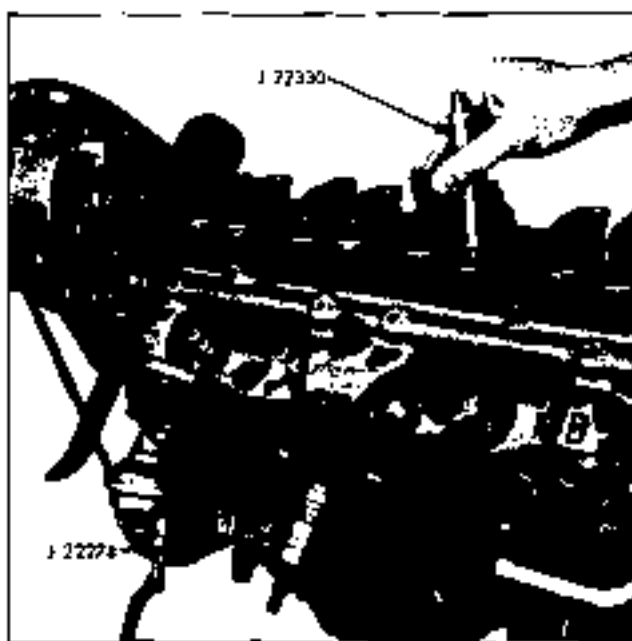
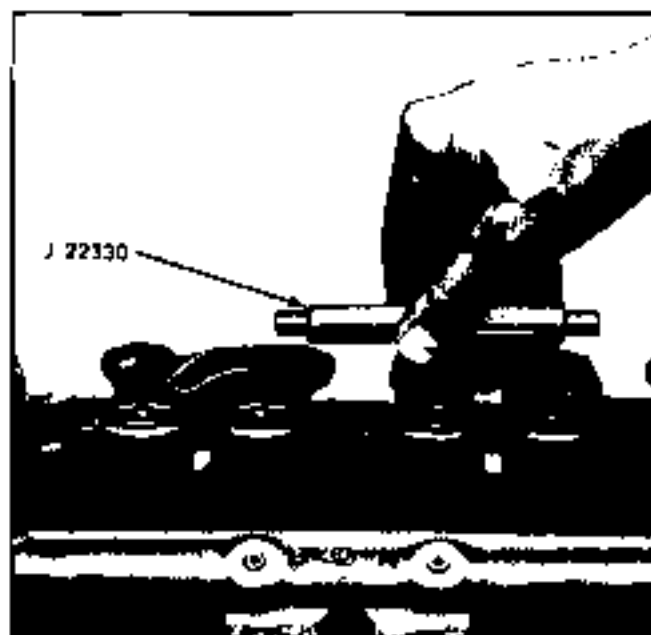

Fig. 6-80 Installing Valve Stem Seal
Fig. 6-81 Checking Valve Stem Seal
1. Install new part or parts, compress springs with valve spring compressor J 6384-1 and nut J 8929-2. Install valve stem seal (Fig. 6-80) and retainer cup locks. Remove spring compressor and valve holder, then test valve stem seal, using suction cup end of tool J 22330 (Fig. 6-81).